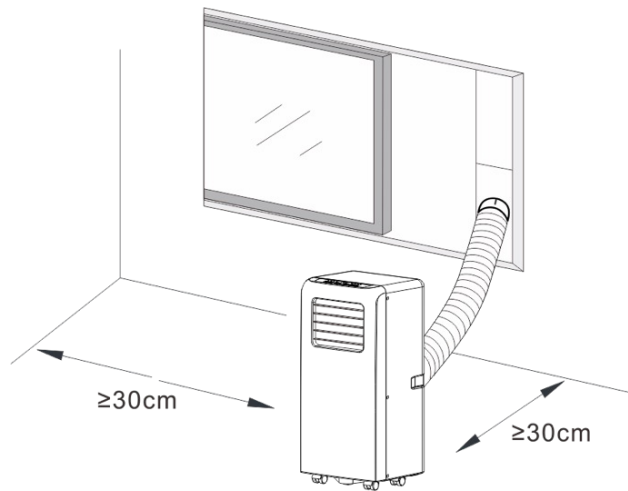

Fig.4
- A removal air-conditioner shall be installed in the flat and empty place all around. Don't block the air outlet, and the required distance around should be at least 30cm. (See Fig.4)